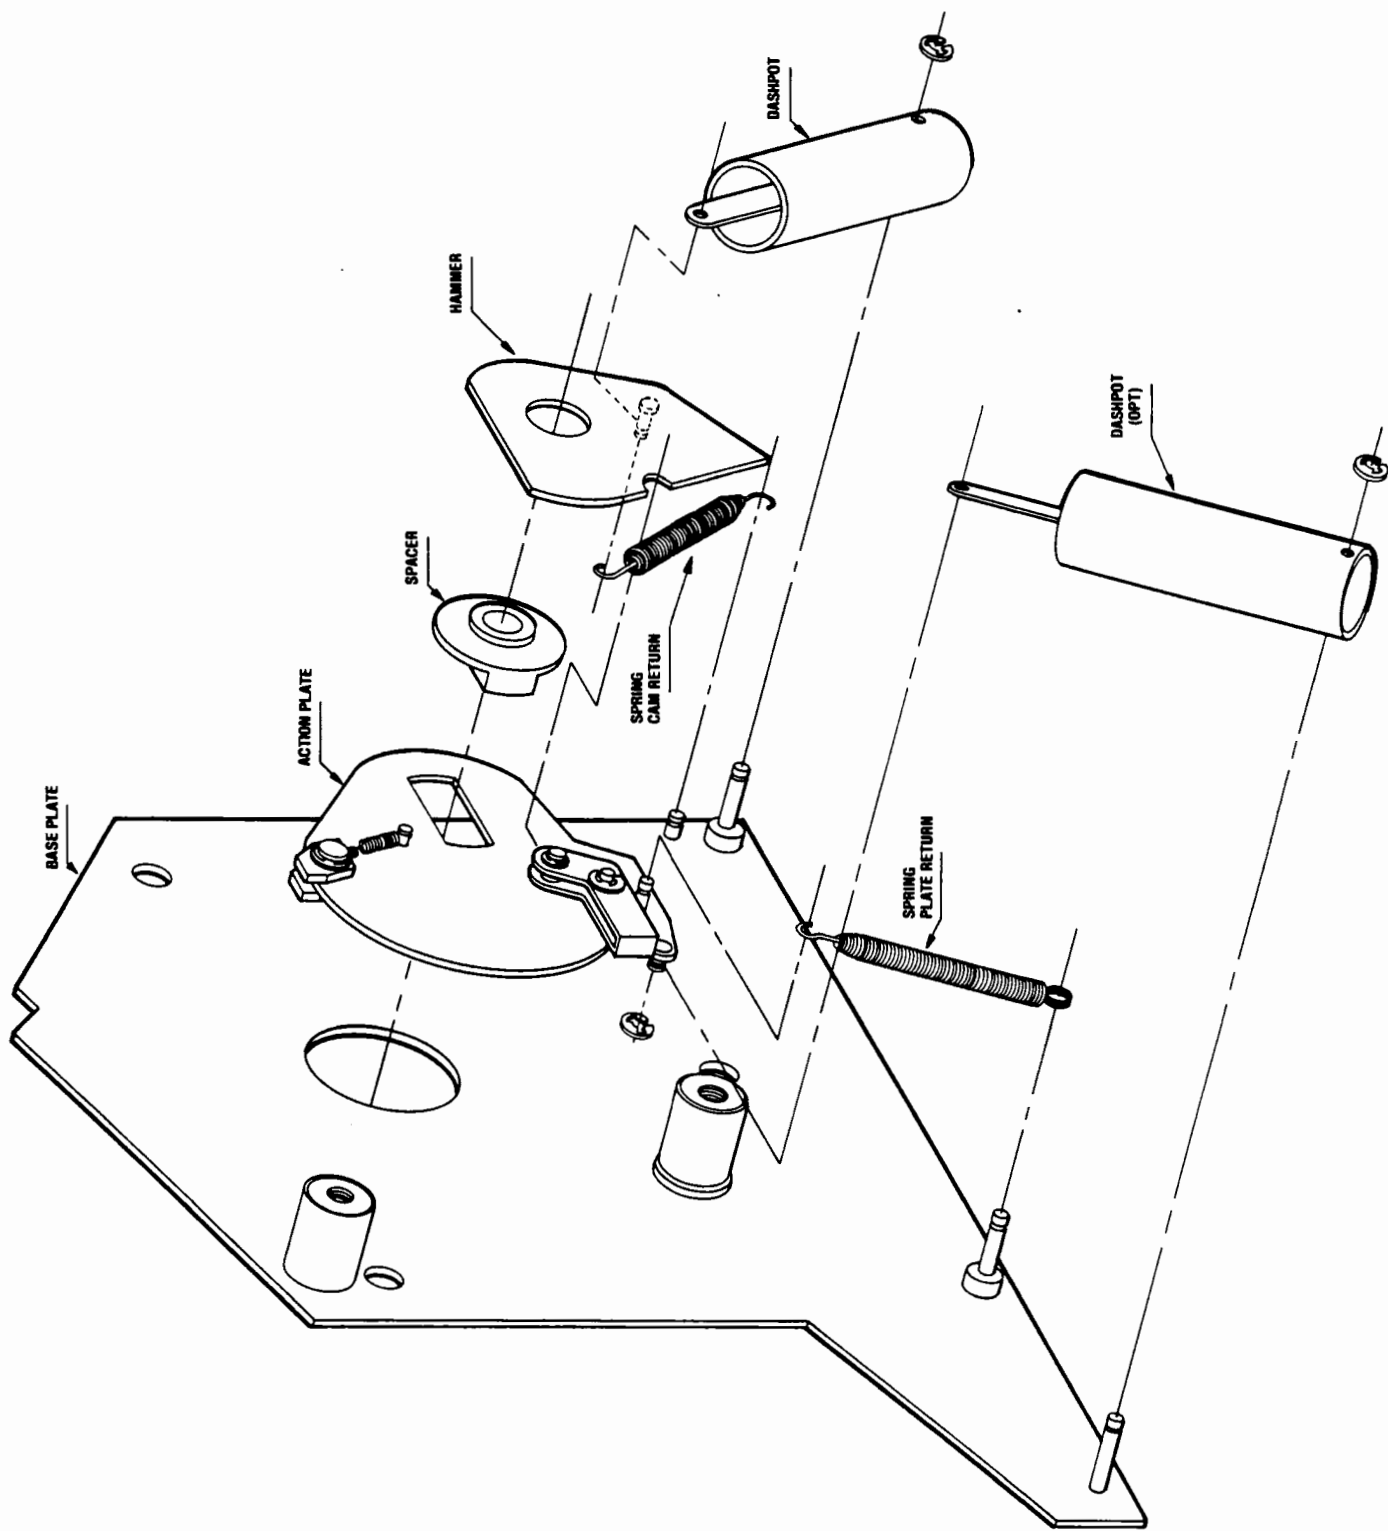

Figure 5-6
- 9) Preassemble the action plate assembly, bushing spacer and hammer as illustrated in Figure 5-6, and set aside.
18) Install spring to the hammer post and the base plate post. See Figure 5-6.